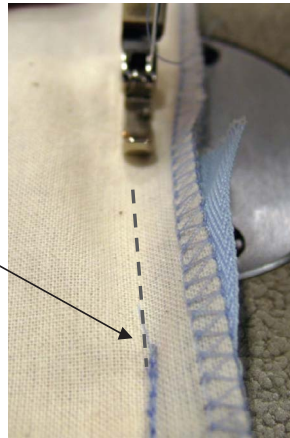

Figure 12
8. To close the seam, attach a half presser foot (with one toe); this presser foot will enable the stitching to join up and get close to the zip stitching (see Figure 12).